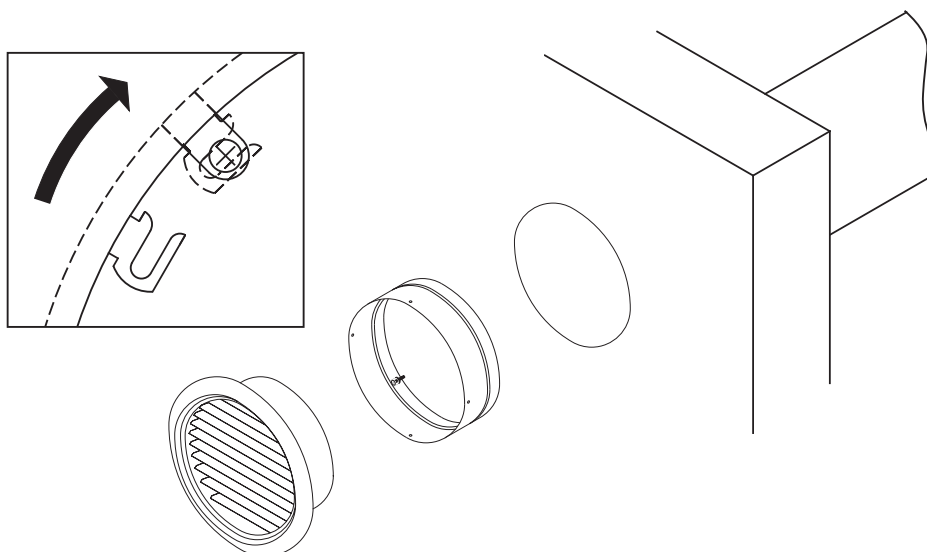

Fig. 3
**STEP 3:** Look inside the openings of the register and locate the four adjusting screws. Carefully insert a screwdriver and tighten all four adjusting screws until the register is firmly held in place (fig. 3). Be careful to not overtighten.